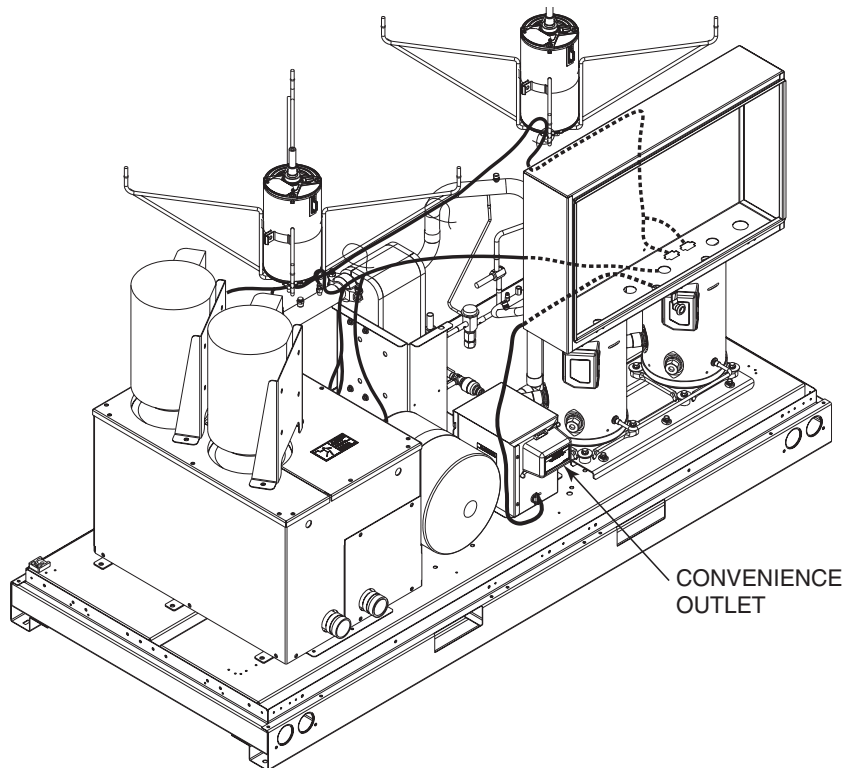

Fig. 2 — Accessory Convenience Outlet Wire Routing — 30RAP010-030 (Shown), 38APS,APD025-030 Units
8. Route the power wire up and into the control box as shown in Fig. 2. Wire ties are supplied with the kit to secure the power wire.